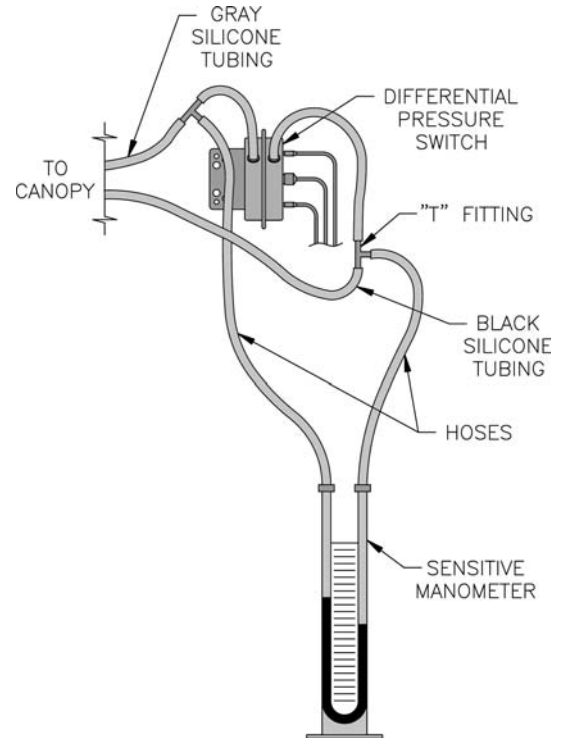

Figure 27: Differential Pressure Measurement
H. Procedure for Measuring Fan Differential Pressure. (See Figure 27).